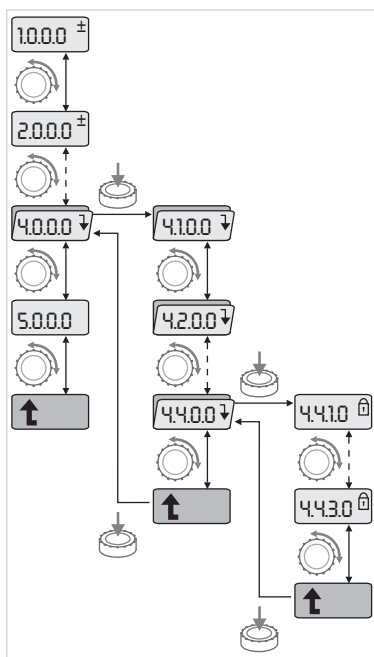

Fig. 40: Navigation example
- Carry out general menu navigation as follows (for an example, see Fig. 40):